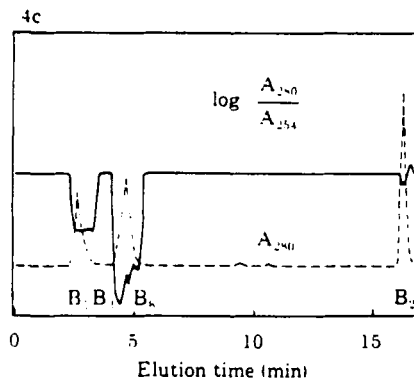
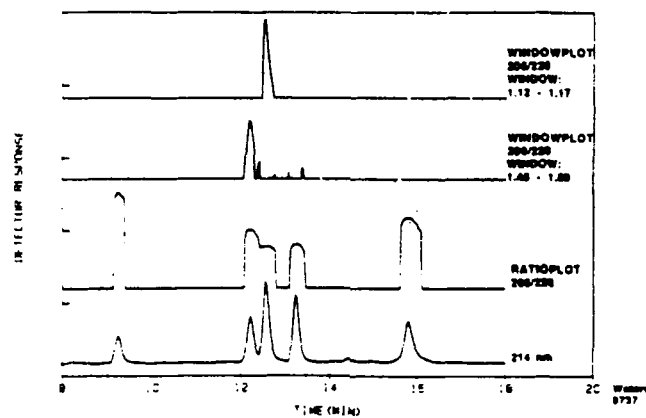

FIGURE 80. Ratio-plot of various B vitamins on the LKB DAD. (With permission.)
FIGURE 81. "Peak-max" plot on the Waters 990 DAD (see text for details). (With permission.)
7. *Ratio-plot* (or "ratiograms") is the ratio of absorbances at any two wavelengths vs. time for qualitatively assessing purity of peaks if the two wavelengths are chosen properly (not at an isosbestic point). Impure peaks will show a sloping ratio vs. time as can be seen in Figure 80 (upper line, right) and Figure 81 for ACTH peptides. In Figure 80 the first peak appears pure because the ratio of absorbance at wavelengths 280 and 254 is flat.
6. *Chromatogram overlay with mathematical operations*, for example, subtracts the signal at one wavelength from that at another, and small peaks can be made visible, if the wavelengths are properly chosen. Figure 81 shows that ratioing the signal at 220 nm over the absorbance at 280 nm gives a "ratiogram" that can be used to assess the purity of the peaks.
The power of the 990+ is that postrun manipulations can produce very complex displays, showing individual chromatograms, spectra, contour plots, perspective plots, ratio plots. A special "spectrum index plot" bunches wavelengths to permit a composite chromatogram to show the total complexity of the sample. Split-screen formats permit very useful combinations of the above plots. One of these, the "window plot", bunches the signal from all wavelengths and then sharply reduces (attenuates) the displayed signal on either side of the signal maximum. This plot can be very useful for controlling fraction collectors to isolate sample in preparative chromatography (Figure 81, top two lines). Software permits a "goodness of fit", which is a measure of spectral similarity.